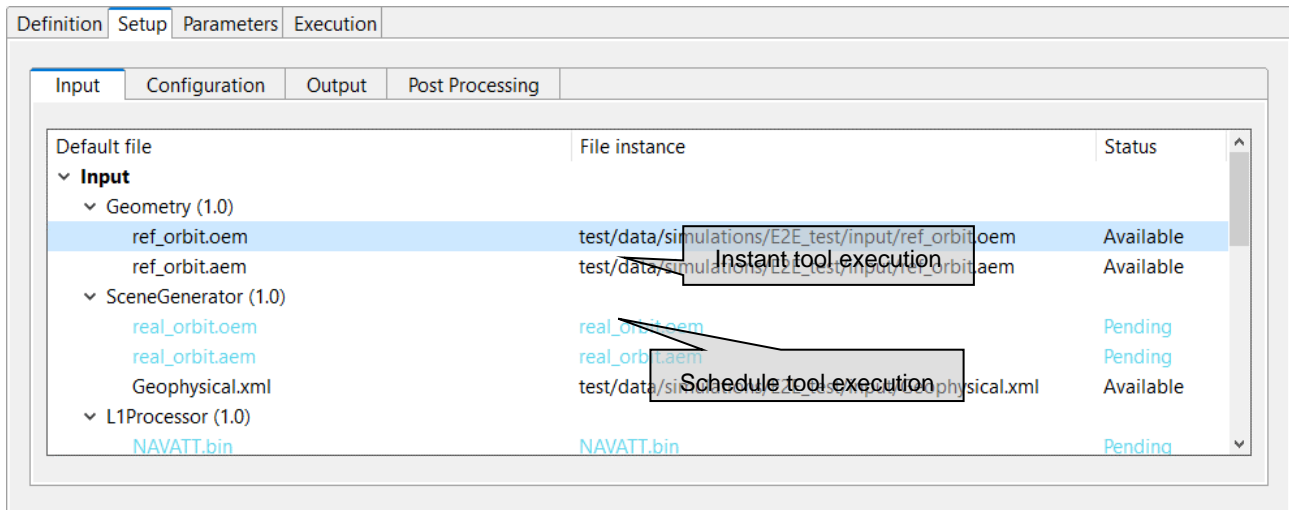

Figure 4-62: Tool Execution/Schedule from Simulation Edition View
- Tool execution from the simulation edit view and execution results view (see Figure 4-62). The execution view is the same as the simulation view with two particularities, 'Results' tab is enabled and the status is completed (successfully or not). Note that in the execution view the status of the output files is shown as *Available* if the simulation chain has been successfully executed while in the simulation editing the status is shown as *Pending* (see Section 4.3.3.6.3).